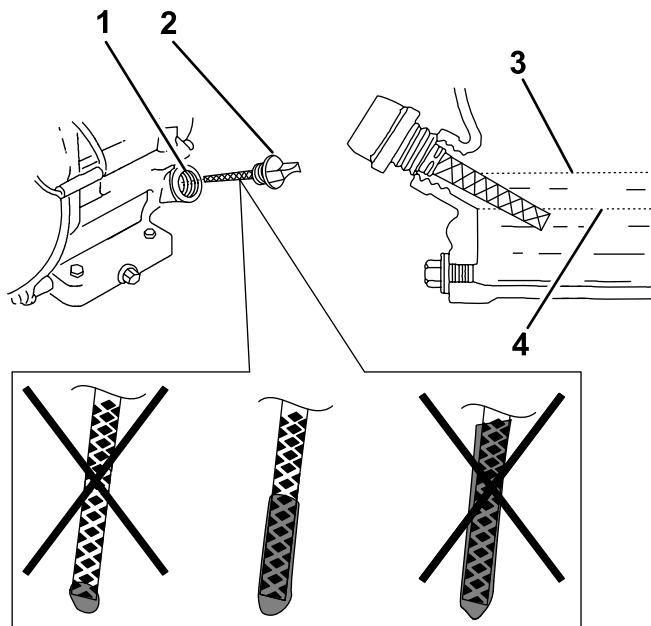

Figure 28
4. Remove the dipstick and wipe the end clean (Figure 28).
5. Slide the dipstick fully into the fill port without threading it into the port (Figure 28).
6. Remove the dipstick and look at the end. If the engine oil level is low, slowly pour only enough oil into the fill port to raise the level to the Full mark on the dipstick (Figure 28).
7. Replace and secure the dipstick (Figure 28).